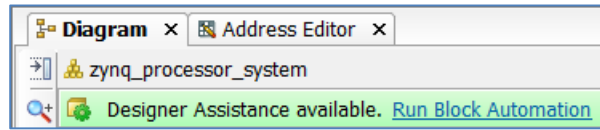

Figure 46: Run Block Automation on Zynq Processing System
7. In the header at the top of the diagram, click **Run Block Automation** as shown in Figure 46.